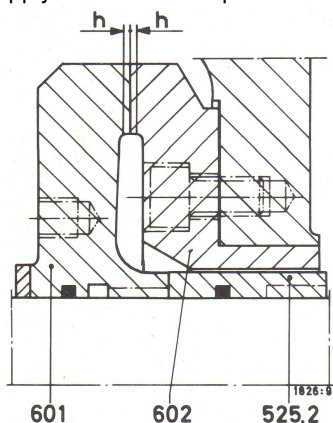

Figure 33 – Remachining the balance device
If the balance disc (601) touches the balance counter disc (602) remachine the faces on a lathe with arbours, this ensures the contact faces are then sufficiently true in relation to the bores. (Max. remachining $2h = 2\text{ mm}$, see fig. 33). Individual grooves can be allowed to remain.